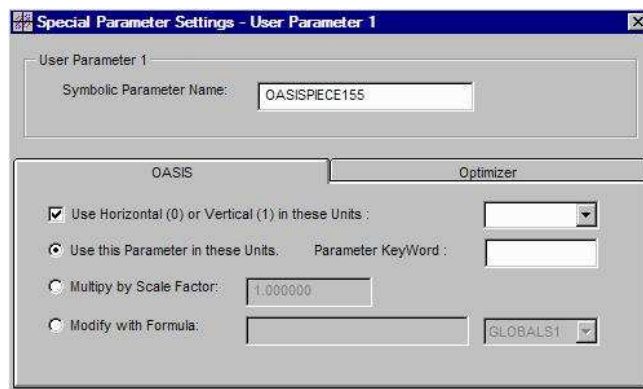

Figure 78. Special Parameter Settings - User Parameter 1 window for a Param Piece.
The Special Parameter Settings (S) buttons need to be selected for each parameter in order for the parameters to be used in the syntax specification. The S button opens a Special Parameter Settings window similar to that illustrated in Figure 78.